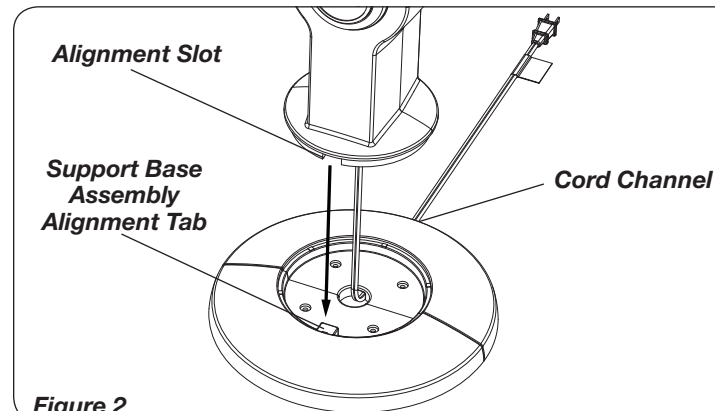

Figure 2
3. Align the *Support Base Assembly Alignment Tabs* with the alignment slots on the bottom of the Fan, noting that the cord channel on the bottom of the support base should be towards the back of the Fan. (*Figure 2*)